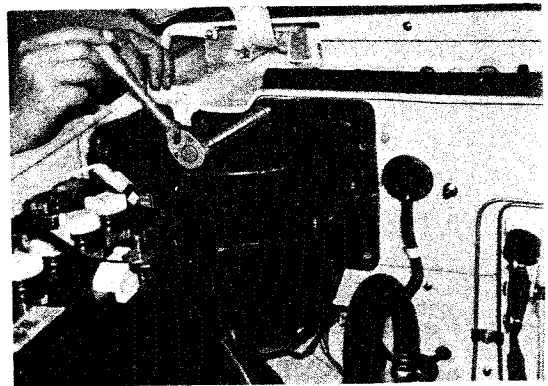

Fig. 69
- 3) Remove the blower fan from the blower motor. See Fig. 69.